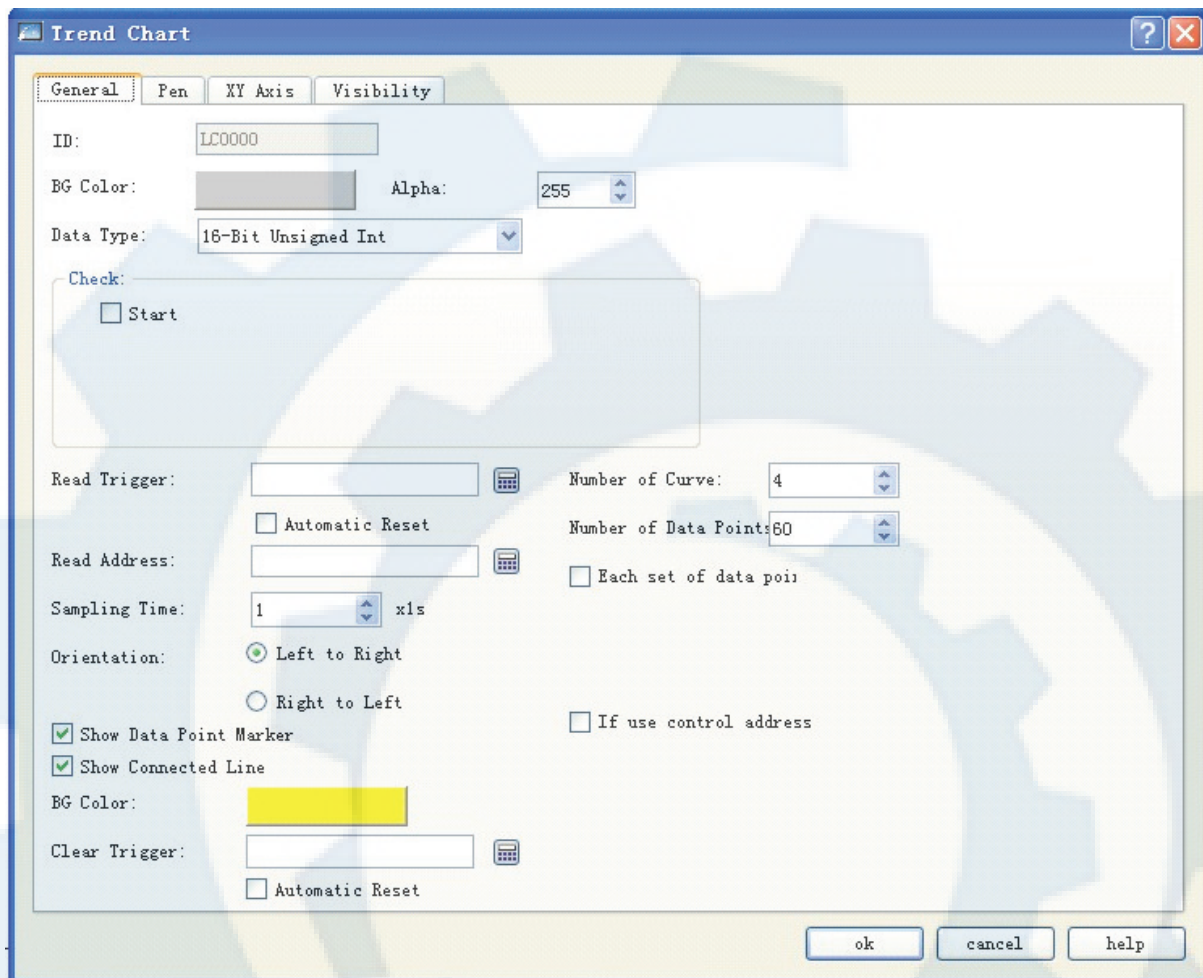

Figure 4-55: General tab of trend chart
1. Click Trend Chart icon  in the tool bar, and then a Trend Chart property dialog as shown in Figure 4-55 will appear.